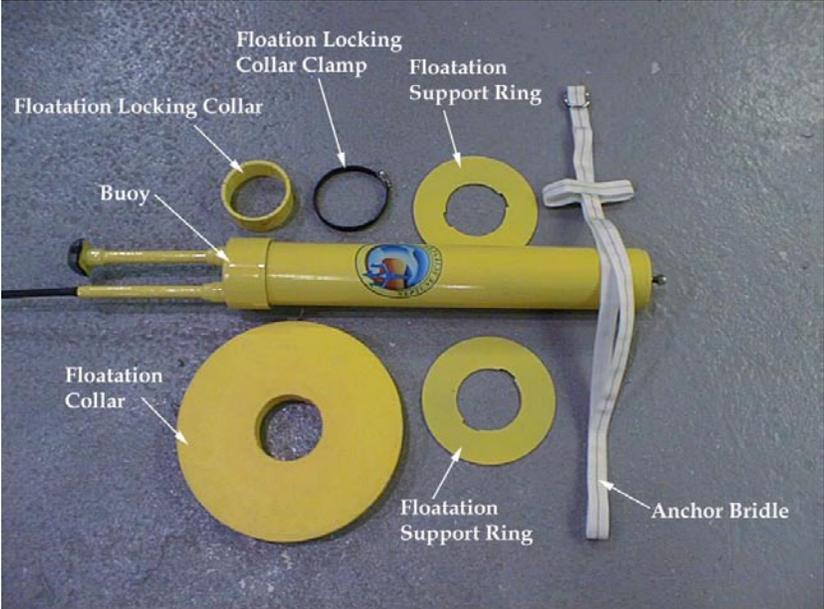

Figure 3 Anchor bridle and floatation assembly components (top) and installed on hull (bottom)
- B. Remove buoy, floatation parts and anchor bridle from shipping case.(Fig. 3, top)
- P.** Adjust the bridle straps so that they are even length on both sides of the buoy. The bridle band should be parallel to the bottom edge of the buoy. Press all the floatation parts tight against the top of the buoy while ensuring the straps are tight. Align the clamp with the bottom of the locking collar and tighten the clamp. (Fig. 18). Refer back to Fig. 3 (bottom) to assure proper assembly.